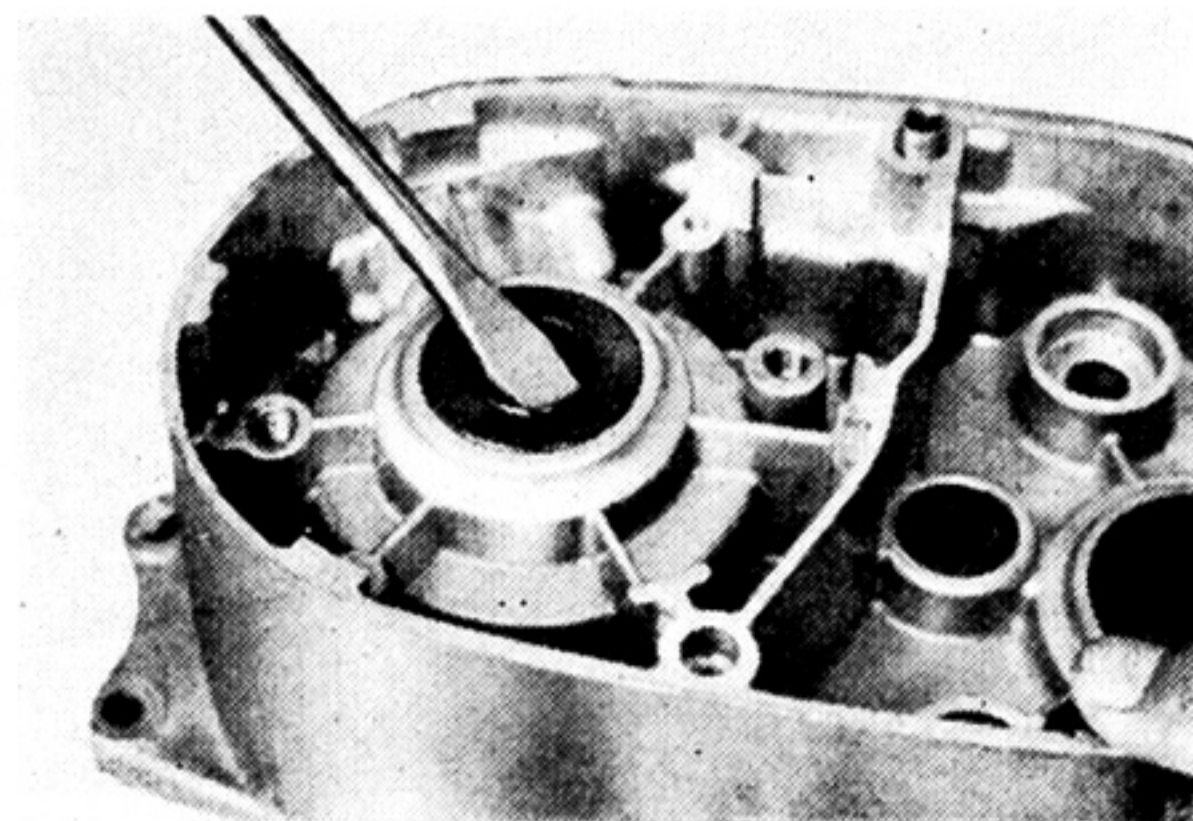

Fig. 3-17-2
- 1) Pry the oil seals out of place with a slot-head screw driver. (Fig. 3-17-2)